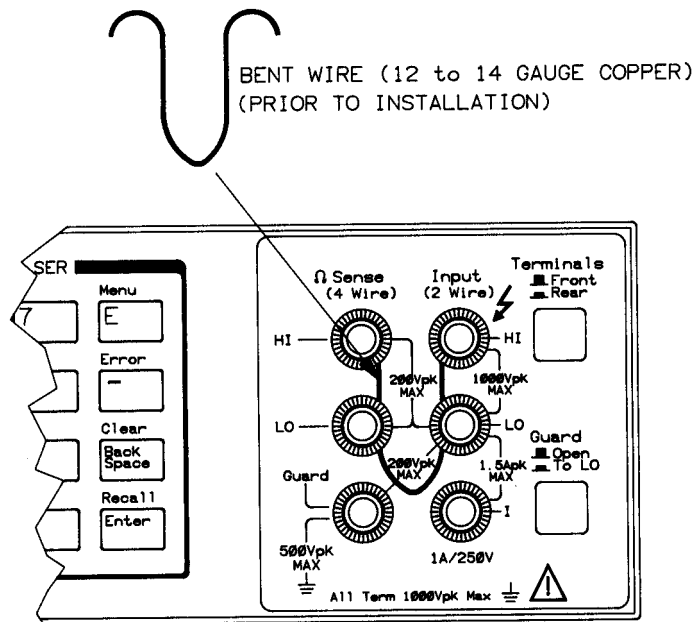

Figure 1. 4-Terminal Short
1. Connect a low thermal short across the front panel **HI** and **LO** input terminals of the DMM under test (see Figure 1 on page 23).
- A low-thermal 4-terminal short for the offset adjustments (this is typically a bent piece of copper wire as shown in Figure 1 on page 23).
6. Allow the multimeter to warm up for 4 hours from the time power was applied. (At this point, you can connect the 4-terminal short to the front terminals as shown in Figure 1 on page 23 to prepare for the Front Terminal Offset Adjustment.)
Equipment required: A low-thermal short made of 12 or 14 gauge solid copper wire as shown in Figure 1 on page 23.
2. Connect a 4-terminal short across the front panel **HI** and **LO** Input terminals and the **HI** and **LO** Ω Sense terminals as shown in Figure 1 on page 23.